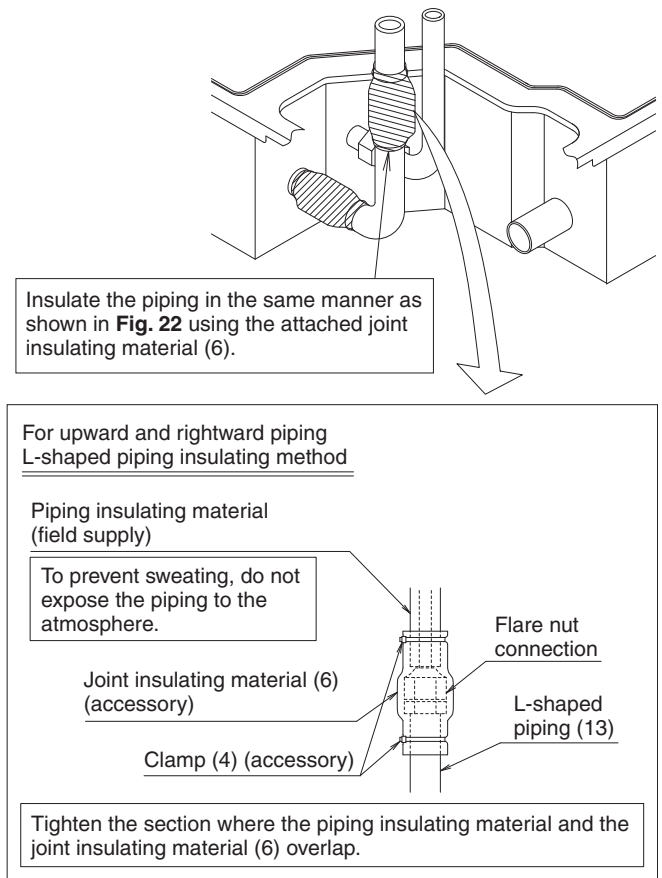

Fig. 23
- Wrap the sealing material (Small) (9) around the joint insulating material (6) (7).
- Make sure to bring the seam of joint insulating material (6) and (7) to the top.
- When carrying out upward and rightward piping, use the attached L-shaped piping, and insulate the 2 places of connection. (**Refer to Fig. 23**) In addition, bend the liquid side field piping using a bender with radius is 40 mm or less. If the attached L-shaped piping is not used or the piping is bent with a bender with radius more than 40 mm, it may interfere with other piping or drain hose.